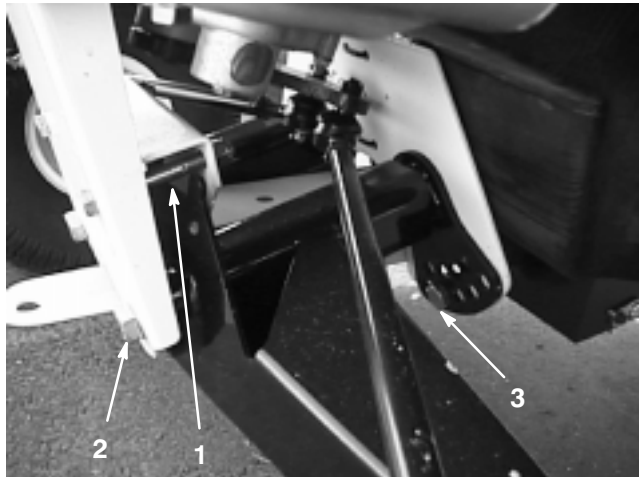

Figure 32
2. Remove the travel limiting bolt (Fig. 32).
3. Loosen the centering bolts in the front "A" frame (Fig. 32).
4. Remove the ride height adjustment bolt (Fig. 32).
5. Rotate the front "A" frame to desired position (Fig. 32).
6. Replace the ride height adjustment bolt and the travel limiting bolt (Fig. 32).